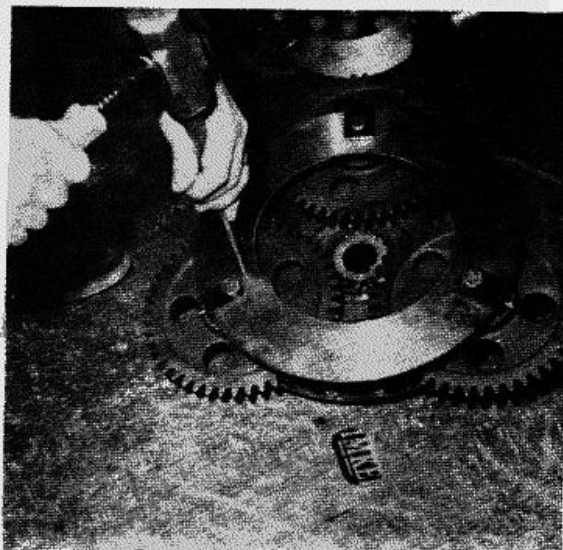

FIGURE 8-13
r. Clean the webbed portion of each of the three planetary pinion gear and mark their position with respect to the planetary carrier (see figure 8-13).